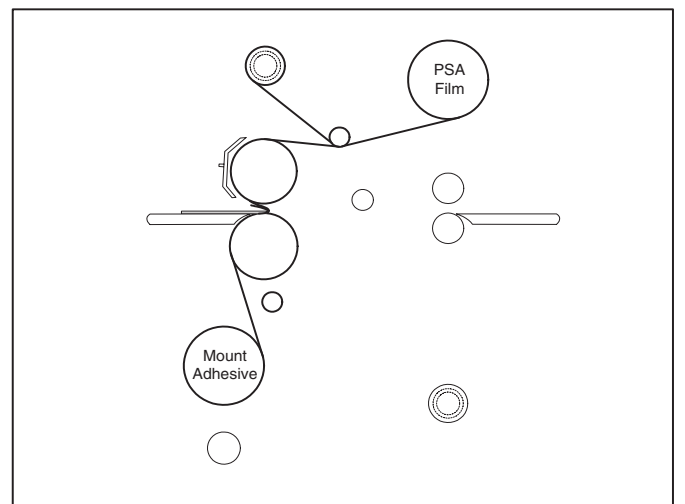

Fig 27
9. Pivot the table back to it's feeding position while ensuring the threading card is on top of the feed table (Figure 27).